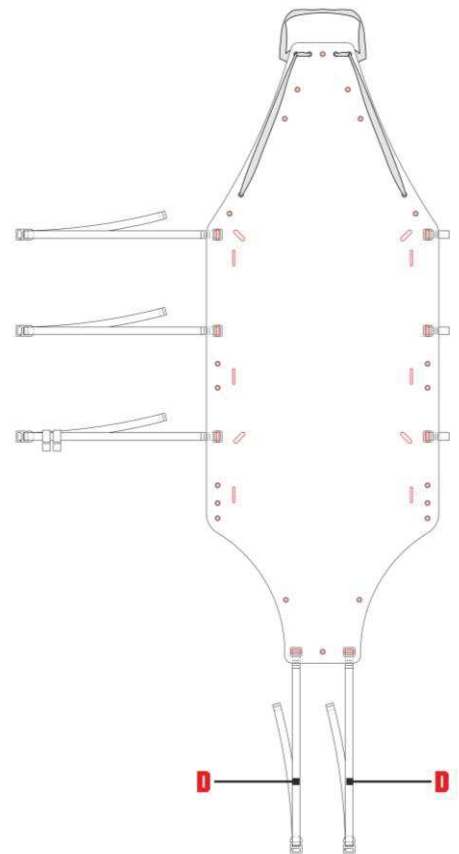

Fig. 12
- d) insert the tape (D) into the slots A3 of the support surface (fig. 12),